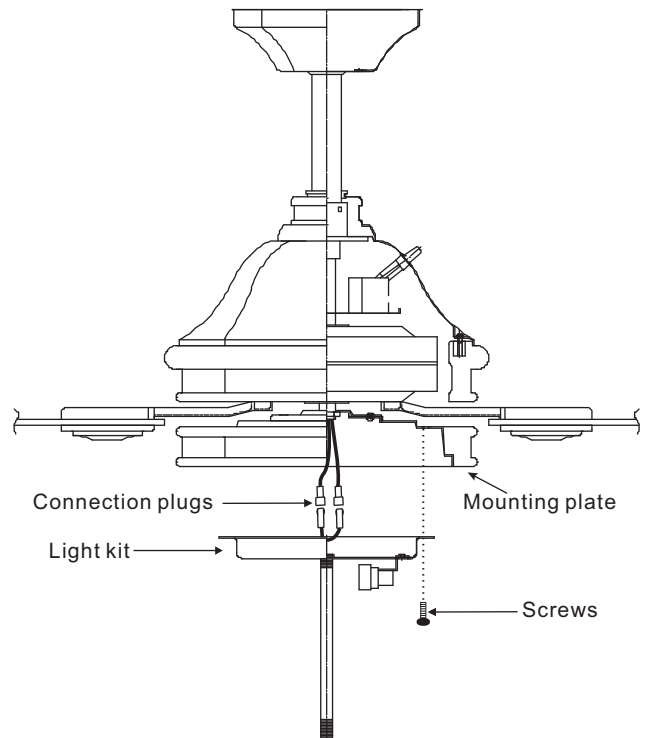

Figure 16
Step 2. Raise and hold the light kit close to the mounting plate and proceed to do the wire connections. Connect the white wire connectors from the light kit and fan, follow the same procedure with the black wire connectors. (Fig. 16)
Step 3. Tuck connections neatly into mounting plate, Place the light plate key holes over the 2 screws previously loosened from the mounting ring, turn light kit until it locks in place at the narrow section of the key holes. secure by tightening the 2 screws previously loosened and the one previously removed. (Fig. 16).